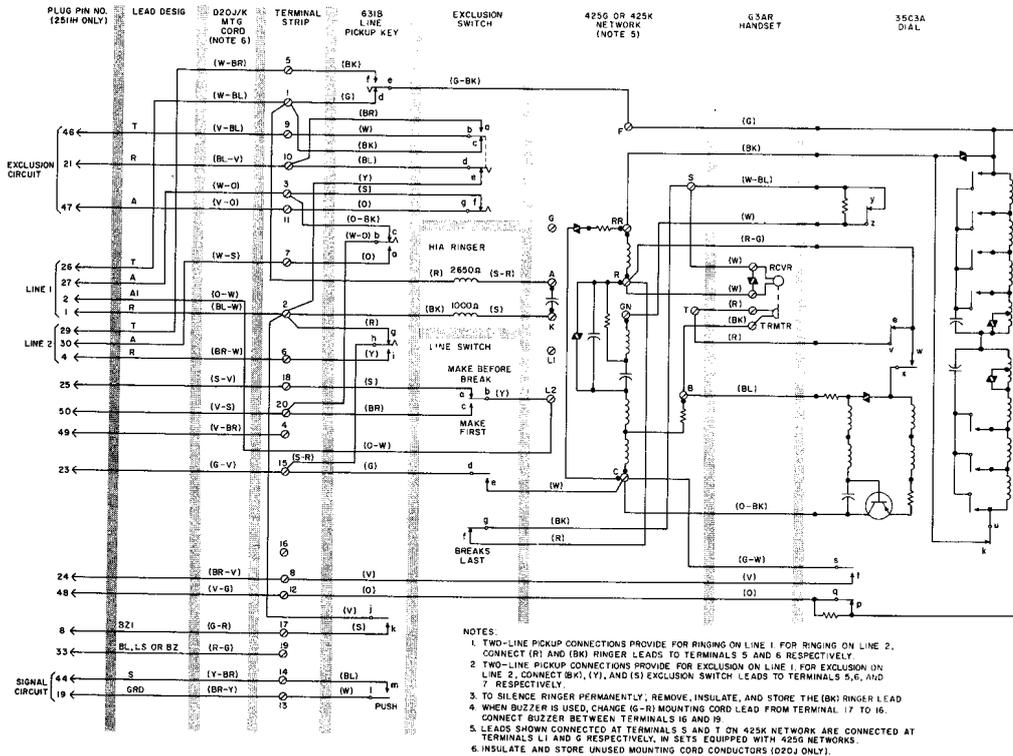

FIGURE 2. 2511F/H Telephone Set Connections, 2 Line Pickup With Exclusion on Line 1, Signaling, Wired For 1A1 and 1A2 Key Telephone Systems
- f. 2511F/H Telephone Set Connections, 2 Line Pickup With Exclusion on Line 1, Signaling, Wired for 1A1 and 1A2 Key Telephone Systems—Figure 2.